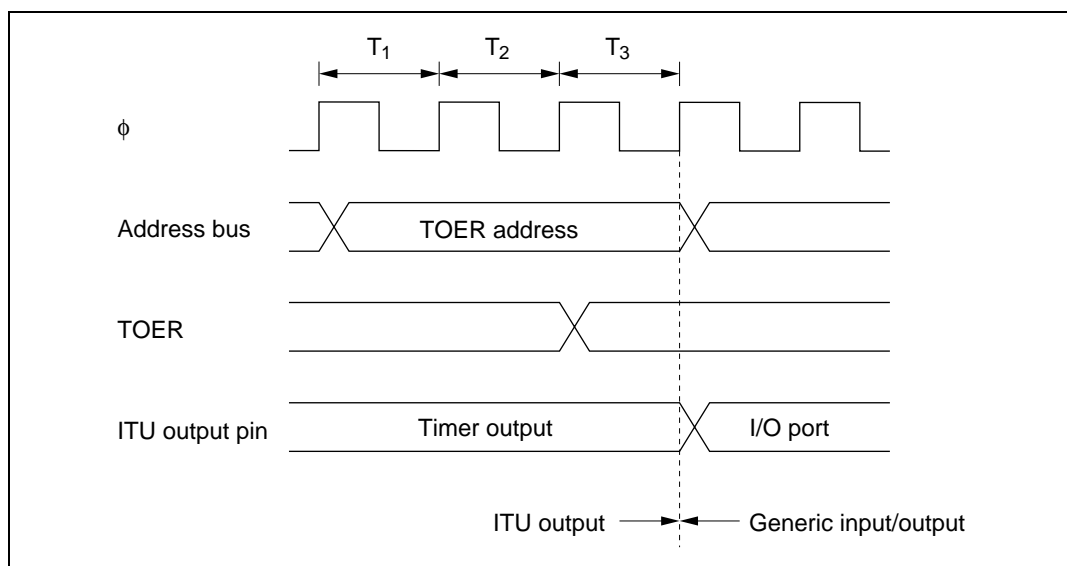

Figure 10.54 Timing of Disabling of ITU Output by Writing to TOER (Example)
Timing of Enabling and Disabling of ITU Output by TOER: In this example an ITU output is disabled by clearing a master enable bit to 0 in TOER. An arbitrary value can be output by appropriate settings of the data register (DR) and data direction register (DDR) of the corresponding input/output port. Figure 10.54 illustrates the timing of the enabling and disabling of ITU output by TOER.